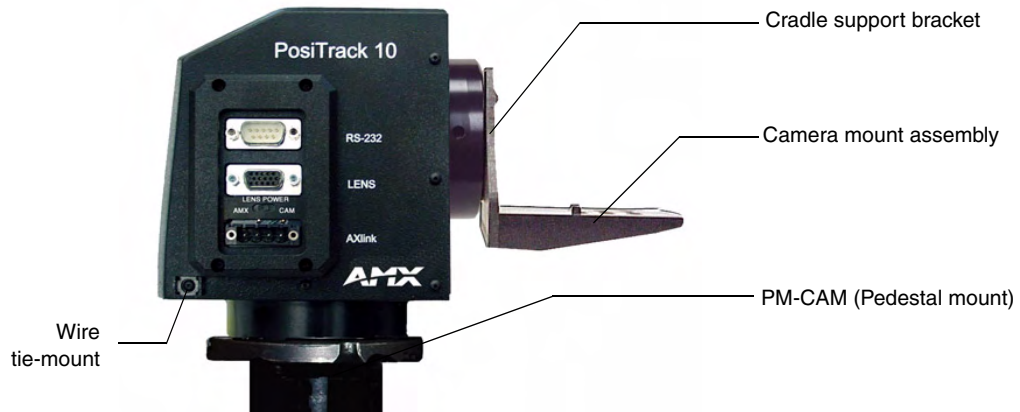

FIG. 13 Pedestal mount
Each PosiTrack unit can be mounted to camera mounts such as the TM-CAM, WM-CAM, and PM-CAM as shown in FIG. 13.
12. Support the weight of the camera cables with a wire tie attached to the wire tie mount on the lower corner of the face of the PosiTrack unit (FIG. 13).